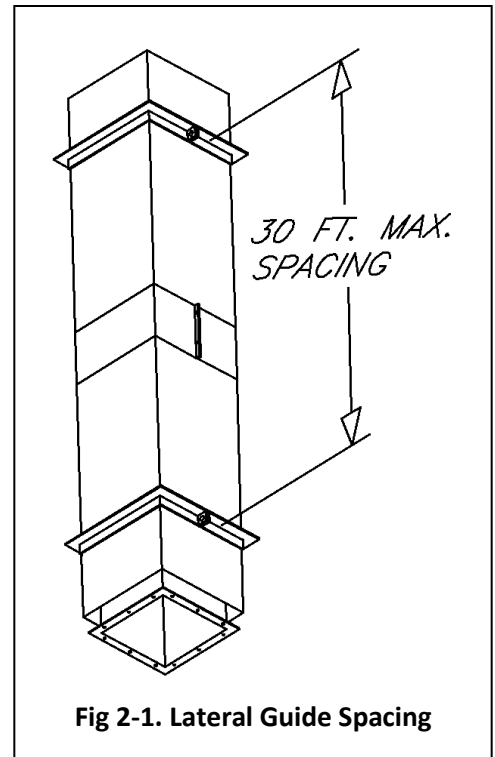

Fig 2-1. Lateral Guide Spacing
DWGD-RZ systems require guides to maintain proper alignment of the system and lateral support for wind loads. Refer to Table 2-3 & Fig. 2-1 (Dim B) for Lateral Guide Spacing.
Full angle supports, in conjunction with field fabricated support members from the FAS attached to the building or structure, are intended to laterally brace the vertical assembled duct lengths from wind loads and to also maintain alignment as the duct expands and contracts. The FAS is comprised of (2) halves and when bolted together is a slight clearance fit to the duct. Position the FAS away from draw bands & covers as to allow for the unrestricted expansion and contraction of the duct system. FAS's cannot be installed over draw bands. See Fig 2-1 & 2-2.